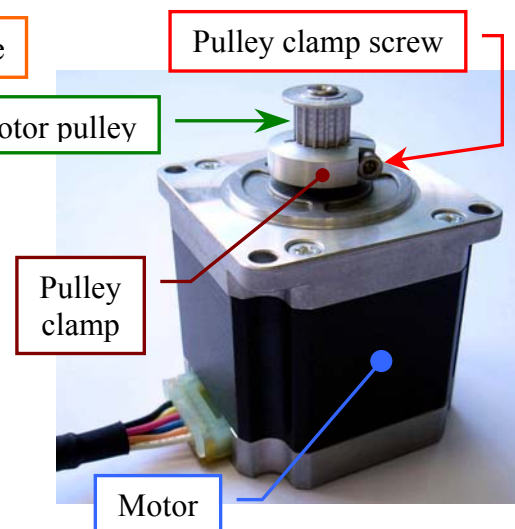

Fig. 111 – Motor pulley
7. Loosen the pulley clamp screw and extract the pulley clamp and the pulley from the motor shaft (**Fig. 111**).